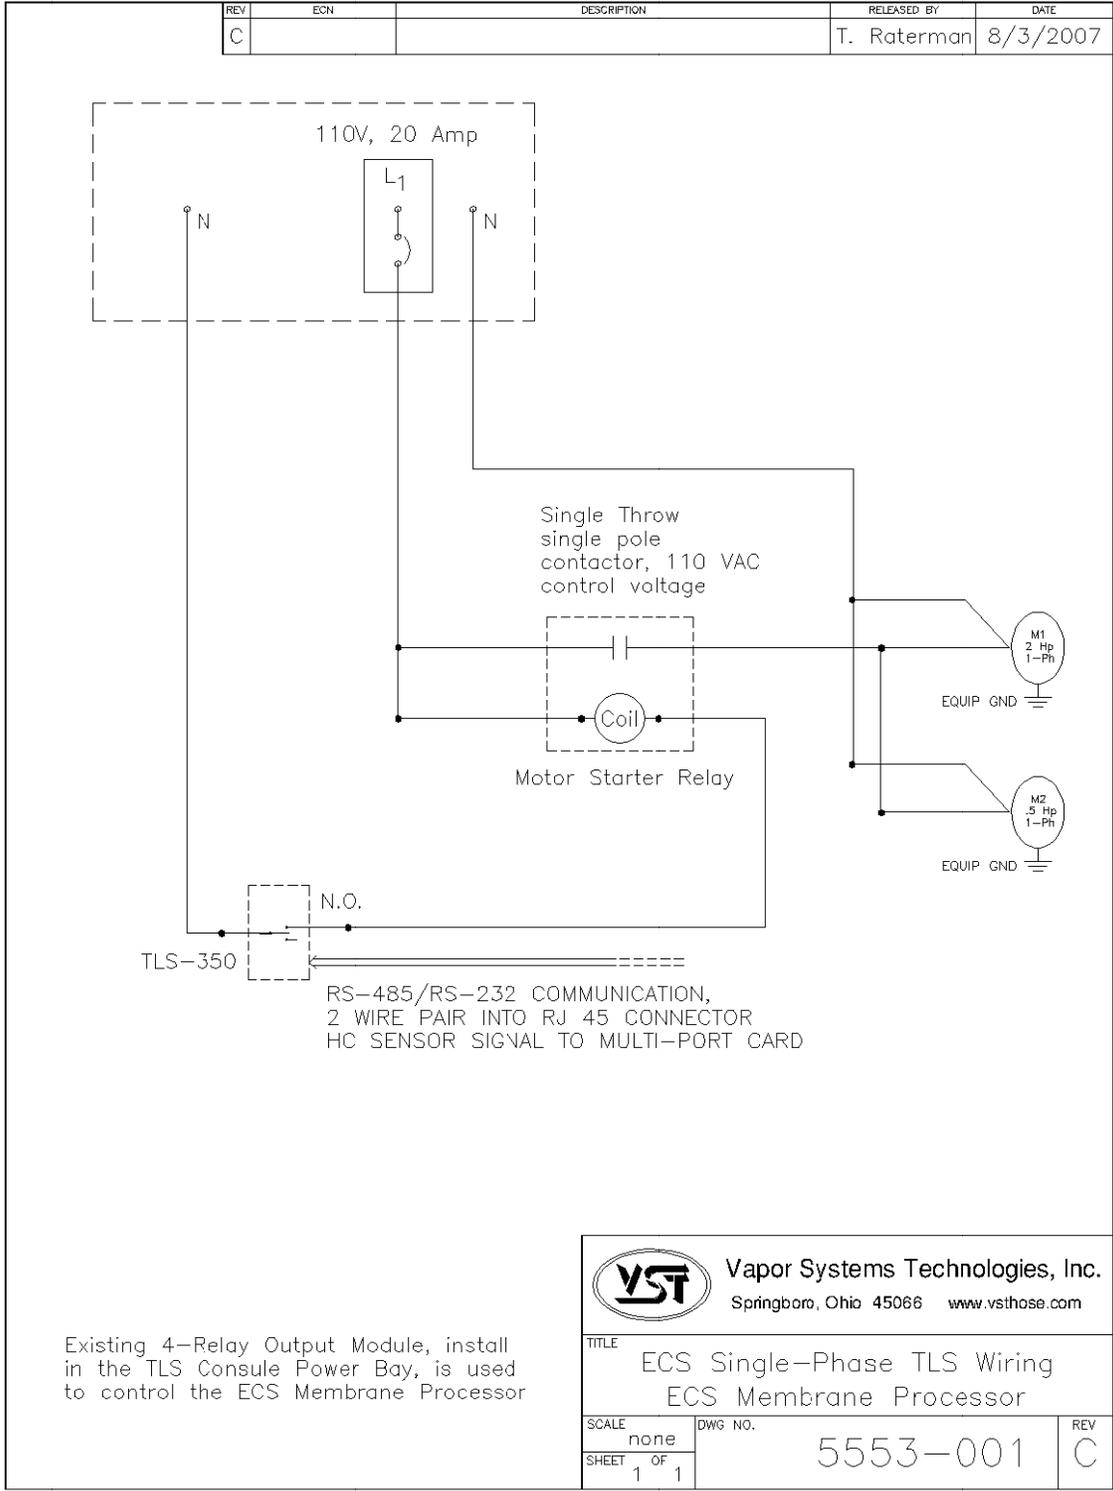

Figure 23: Processor Single-Phase TLS Wiring
- ▶ **See Figure 23: Section 14 / Page 63**